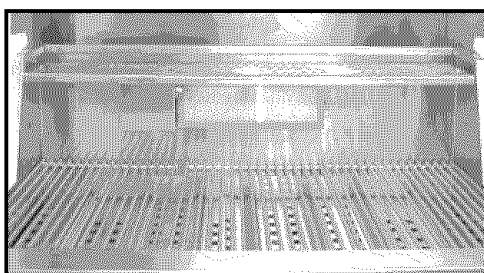

Fig. 18
4. Place warming shelf on support brackets by setting it flat across brackets allowing the two holes to line up with the stops on each bracket. (See Fig. 18)